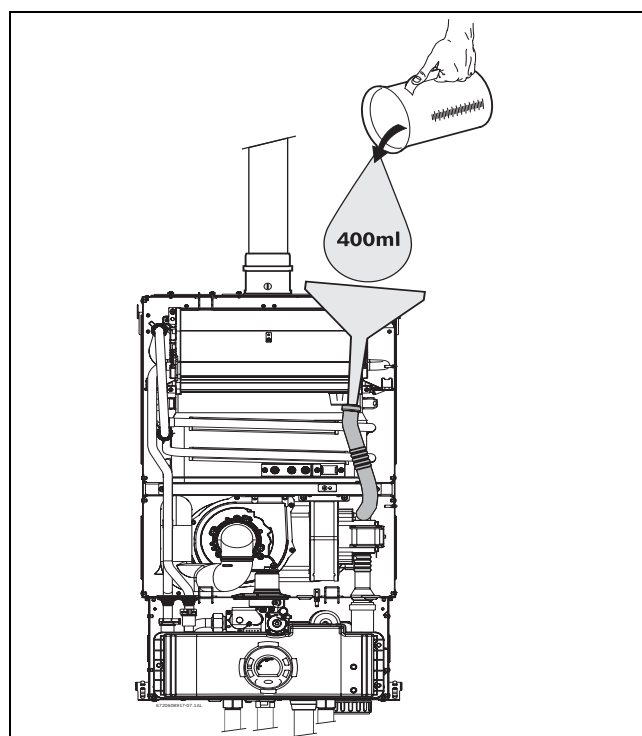

Fig. 47 Filling the condensate trap after installation
- ▶ Fill the condensate trap by pouring approximately 400ml of water into the top of the drain pipe. To avoid damage to the appliance use a funnel (→ Fig. 47).